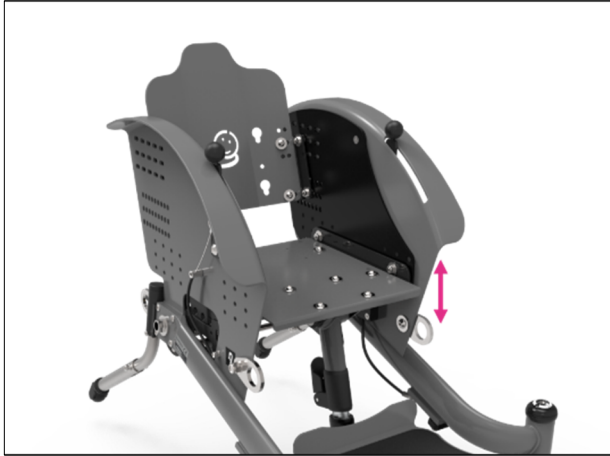
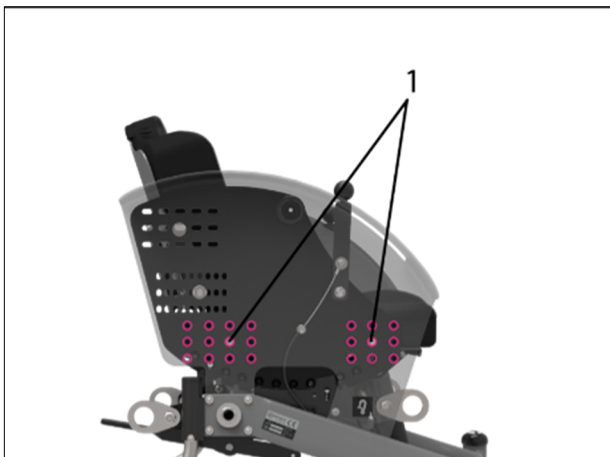

Figure 9: Screw connection of the seat bracket
Figure 10: Hole pattern in clothing guard
1. Loosen the nuts and remove the screws from the seat brackets (see Figure 10, item 1).
2. Slide the seat brackets along the hole pattern of the clothing guards to the new position (see Figure 9). The possible positions for attaching the seat brackets are shown in Figure 10.